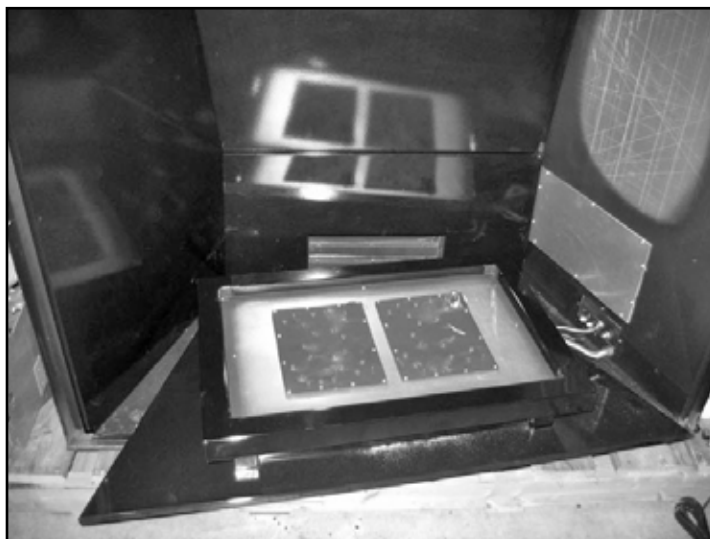

Figure 3: Initial burner placement.
2. Set the burner assembly into the firebox as shown to ease connection setup and right panel installation. (Figure 3)